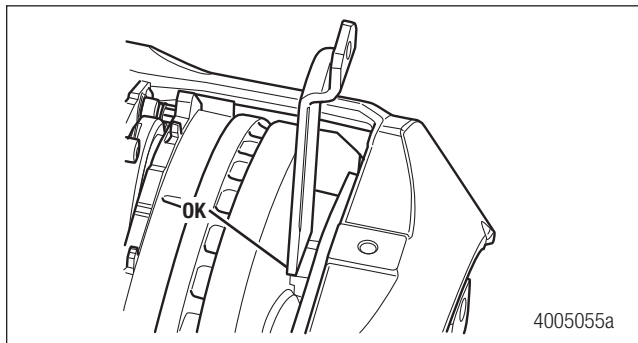
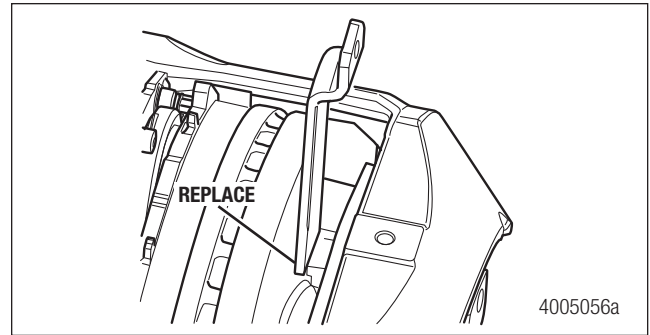

Figure 9.9
Figure 9.10
2. Check for uneven rotor wear. Using the pad retainer as a gauge, place it between the rotor surface and carrier pad abutment. Check both the inboard and outboard sides of the rotor. Figure 9.9 and Figure 9.10.